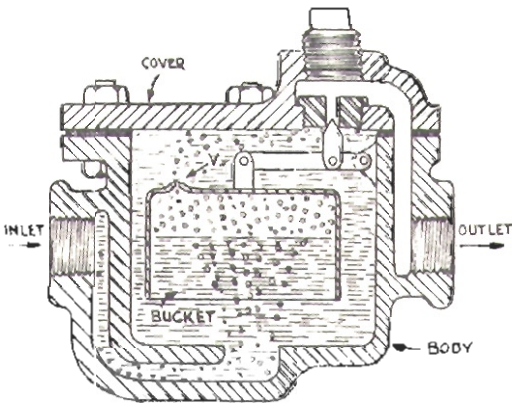

Fig. 3C
Figure 3C. Steam slowly condenses inside the bucket and entrained air gradually escapes through the vent in the bucket (V), rising to the top of the trap. When steam condenses the water level rises inside the bucket causing the bucket to lose buoyancy.